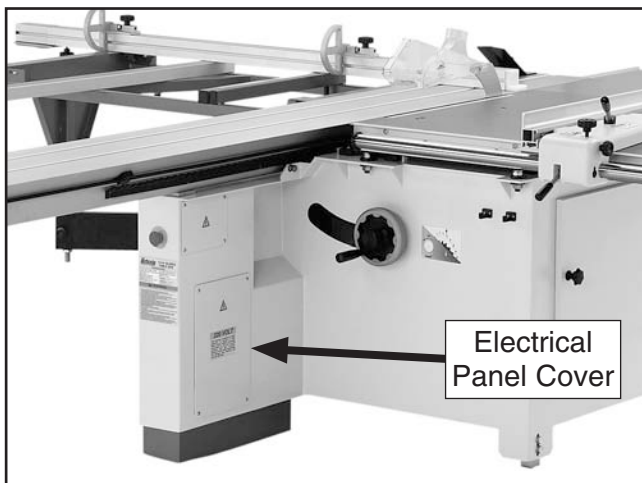

Figure 4. Location of electrical panel cover.
2. Remove the electrical panel cover from the back of the frame (see **Figure 4**).